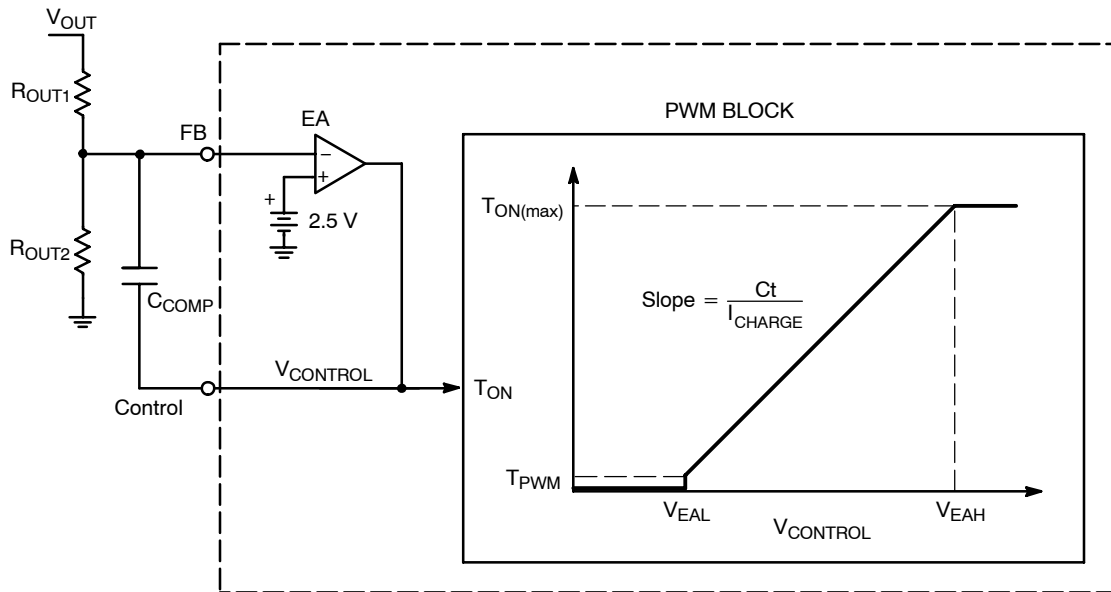

Figure 25. Error Amplifier and On Time Regulation Circuits
The NCP1606 is configured to regulate the boost output voltage based on its built in error amplifier (EA). The error amplifier’s negative terminal is pinned out to FB, the positive terminal is tied to a $2.5\text{ V} \pm 1.5\%$ reference, and the output is pinned out to Control (Figure 25).